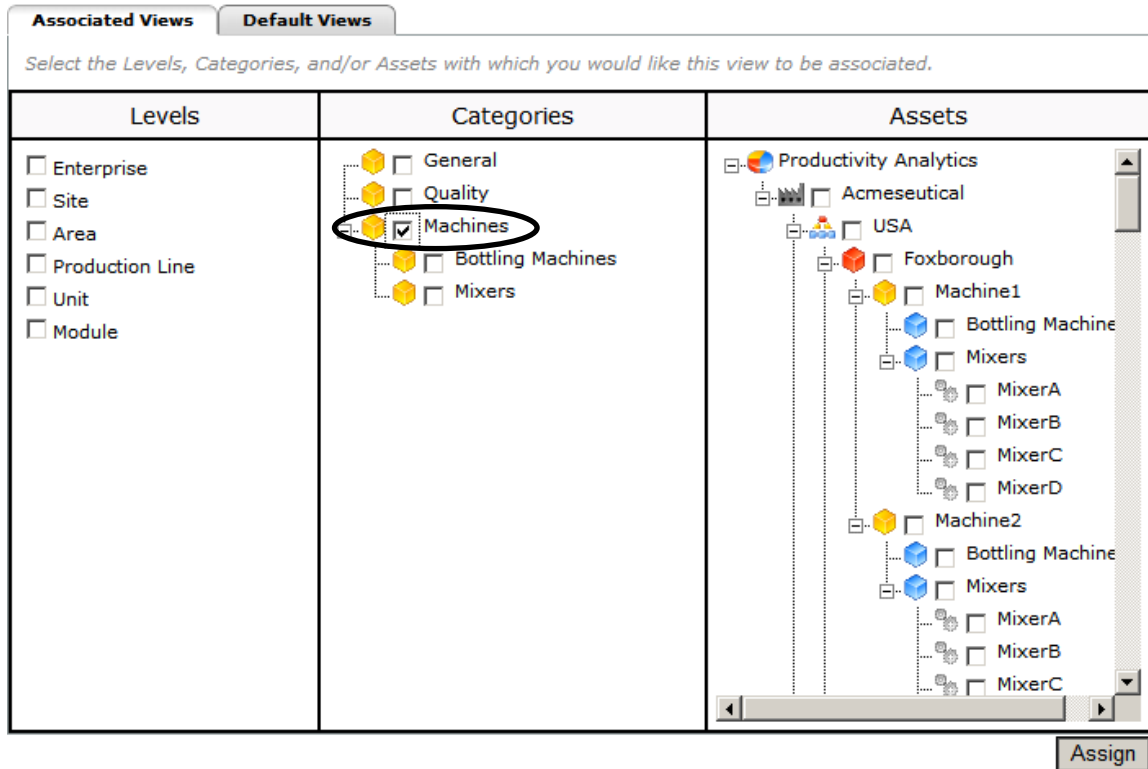

Figure L8.5 - Assigning the New View to All Machines
18. Since this view is generic and applies to the different machines, we will check the box next to “Machines” in the Categories Column, as shown in Figure L8.5.